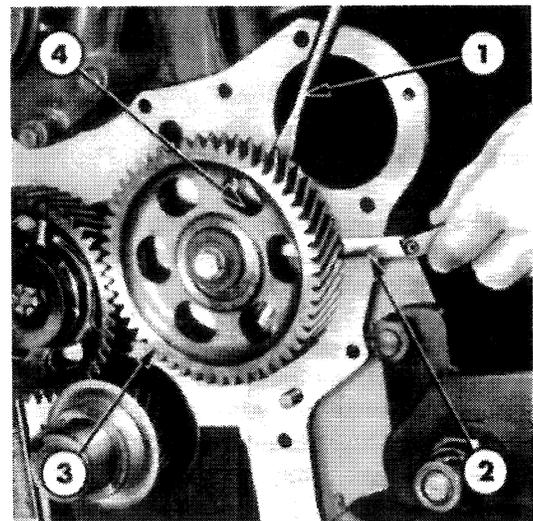

Figure 22
7. Pry the camshaft gear away from the thrust plate and using a dial indicator or feeler gauges, measure the clearance, Figure 22. Install a new camshaft thrust plate if the camshaft end play exceeds the specified limits, see "Specifications"—Chapter 4.